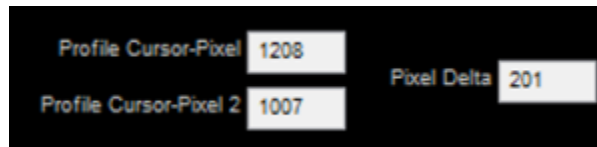

Figure 13. Cursor pixel values and span.
5. In the expanded view, adjust the cursors so that they are centered in the peak's width (not necessarily the max value). You want to achieve a **Pixel Delta of 200 pixels/cm (+/-1px)** (Figure 13).